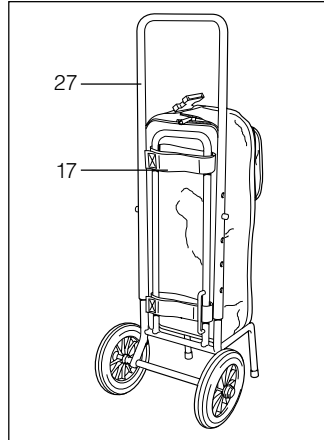

Fig. 12
- Fit the OXYTRON®2 Mobile to the caddy (27) using the straps (17) as shown in Fig. 12.